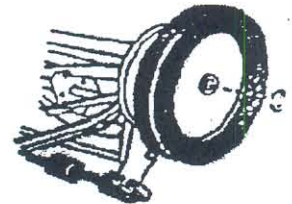

Figure 2
3. Carefully remove the pinion gear being extremely careful not to lose the pawl, as it will easily fall out of the slot located on the reel shaft. Removed the pawl and placed in a safe place. (See Figure 2)